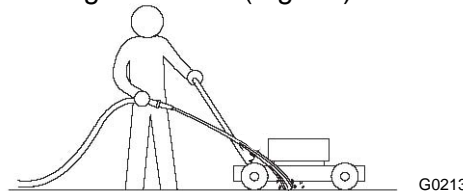

Figure 15
3. Hold the running garden hose a handle level and direct the water to flow on the ground just in front of the right rear tire (Fig. 15).